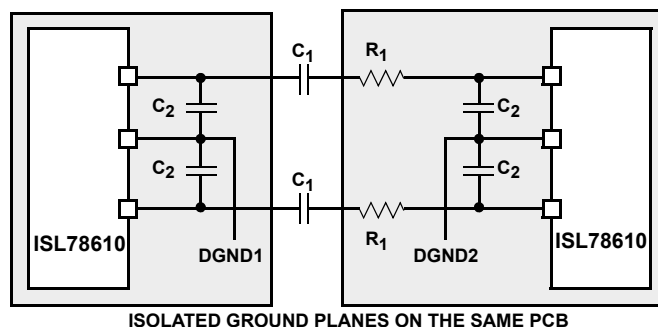

**FIGURE 48. ISL78610 DAISY CHAIN CIRCUIT IMPLEMENTATION**
The ISL78610 daisy chain communications system external circuit arrangement is symmetrical to provide the bidirectional communications function. The performance of the system under transient voltage and EMI conditions is enhanced by the use of a capacitive load. A schematic of the daisy chain circuit for board to board connection is shown in Figure 48.
The values of components in Figure 48 are given in Table 8 for various daisy chain operating data rates.
The circuit and component values of Figure 48 and Table 8 will accommodate cables with differential capacitance values in the ranges given. This allows a range of cable lengths to be accommodated through careful selection of cable properties.
The circuit of Figure 48 provides full isolation when used with off board wiring. The daisy chain external circuit can be simplified in cases in which the daisy chain system is contained within a single board. Figure 49 on page 29 and Table 9 on page 29 show the circuit arrangement and component values for single board use. In this case, the AC coupling capacitors  $C_1$  need to be rated only for the maximum transient voltage expected from device to device.
**TABLE 8. COMPONENT VALUES IN FIGURE 48 FOR VARIOUS DAISY CHAIN DATA RATES**